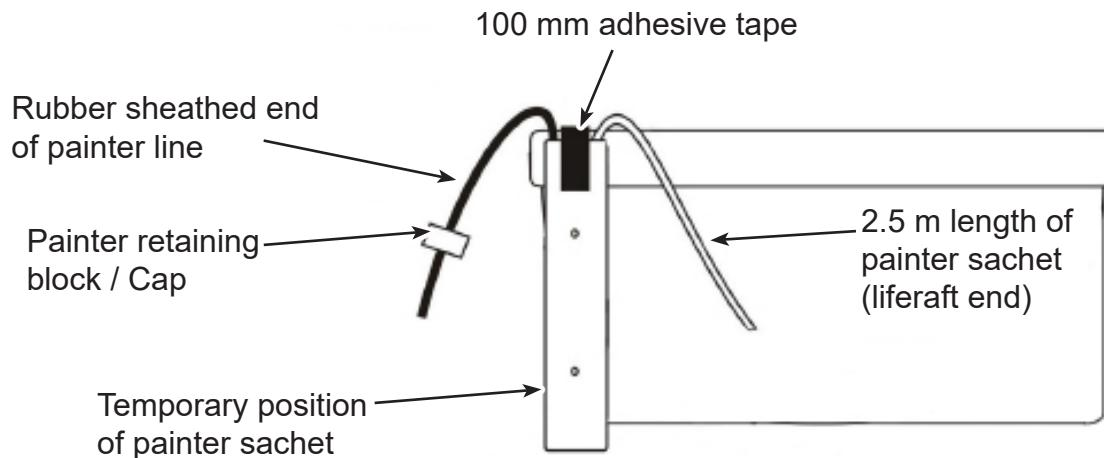

FIGURE 899A
- 9.22 Use 100 mm black adhesive tape to temporarily attach the painter sachet to the lower half of the container. Refer to **Figure 899A**.
9.36 Put the rubber sheathed end of the painter line through the painter retaining block. Refer to **Figure 899A**.